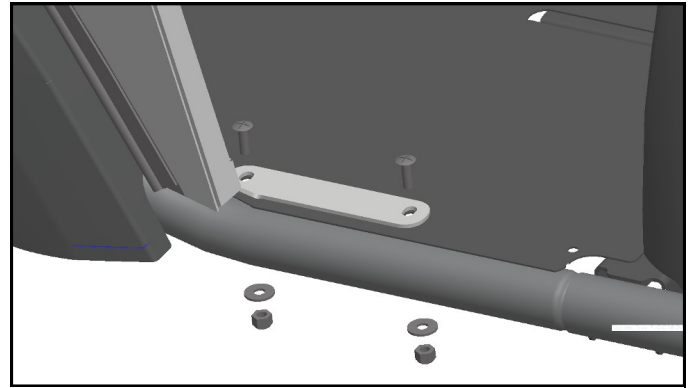

Fig. 4 (install floorboard bolts)
4. Per fig. 4, install two 1/4-20 Truss head Phillips bolts through the floorboard where the pine tree clips were removed. Secure using two 1/4" washers and two locknuts and tighten.